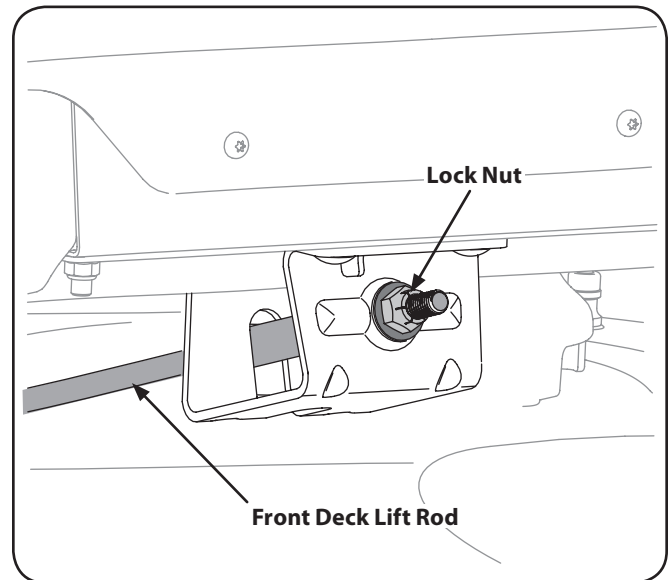

Figure 6-5
5. Using a wrench, raise or lower the front of deck by turning lock nut on the front deck lift rod. See Figure 6-5.